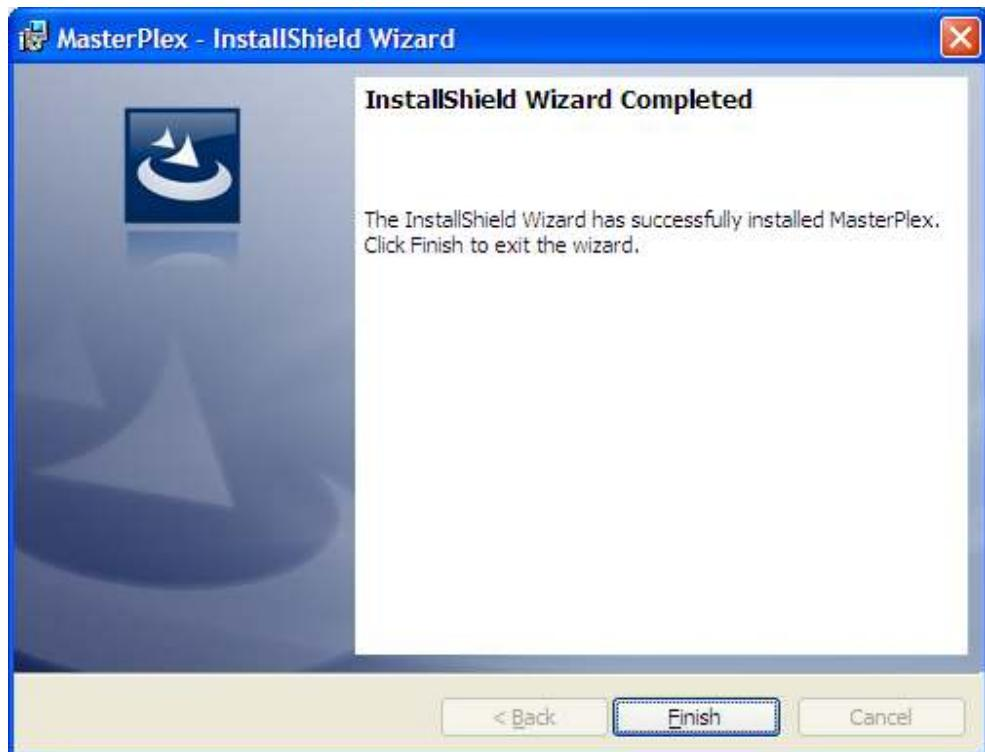

Figure 2.7 InstallShield Wizard Complete window
7. After the installation is completed, the InstallShield Wizard Complete window appears (Figure 2.7).